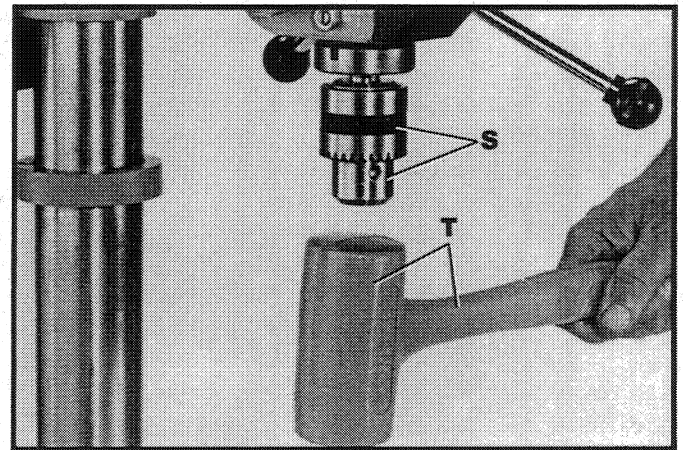

Fig. 16
13. Carefully drive chuck (S) Fig. 16, onto the spindle with a block of wood and hammer, or a mallet (T) as shown. This will seat the chuck properly on the spindle. **IMPORTANT:** To avoid damage to the chuck, **NEVER** drive the chuck onto the spindle with a metal hammer.